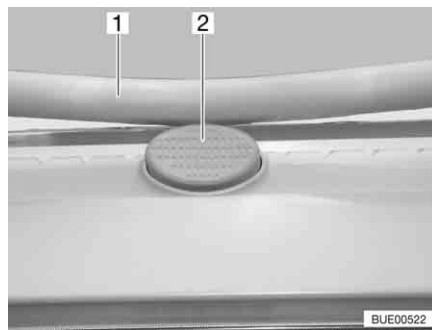

Fig. 58 Safety knob on the Heki skylight
- Press the safety knob (Fig. 58,2) and pull the bar (Fig. 58,1) down with both hands.
- Push the bar upwards with both hands until it is above the safety knob (Fig. 58,2).